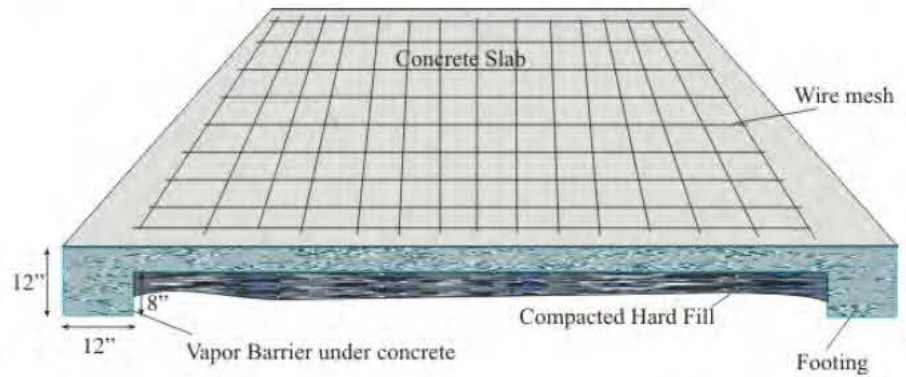

Figure 4
Step 9. You are now ready to pour your concrete. Your concrete slab should be 12"x12" around the exterior edges, and under any additional skids, and reinforced with wire mesh. The rest of the slab should be 4" thick. Figure 4.